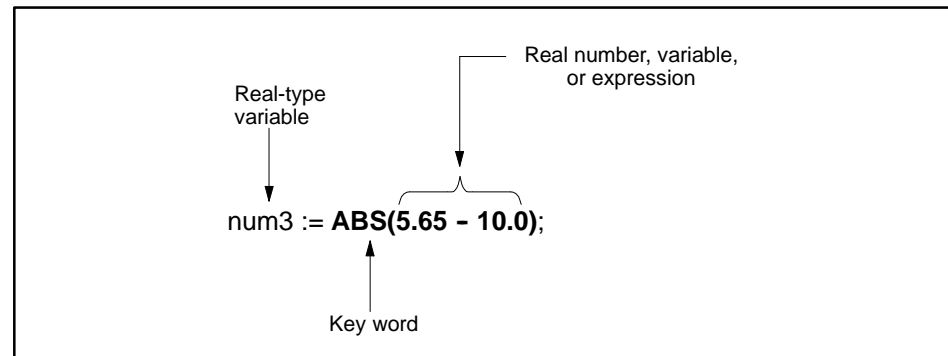

Figure 11-1 ABS Real Function
- STL and SFPGM can use real or integer functions, but the expression must match the returned type. See Figure 11-1.